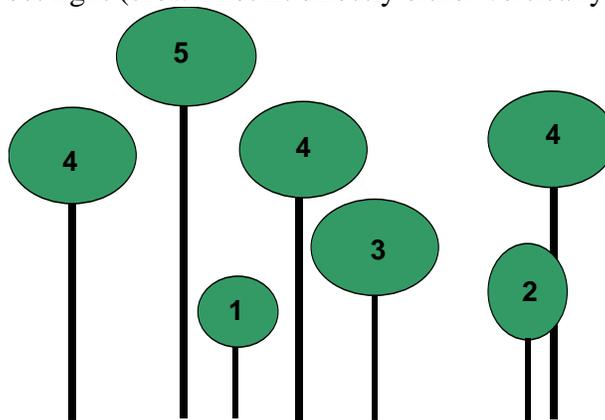

Figure 1. Examples of trees having different values of the crown illumination index.
5. Evaluate and record the crown illumination index (CII) of the tree. The different values are defined as follows (Figure 1):